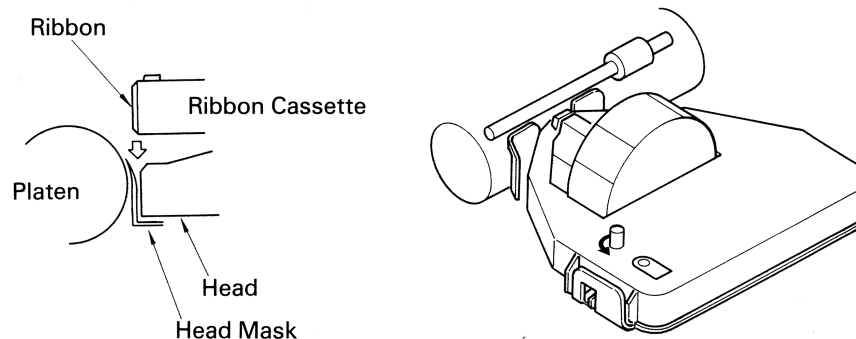

Figure 8. Installed Ribbon Cassette
7. Move the Carriage back and forth manually to check that the ribbon advances properly. If the ribbon has not been properly fitted between the Head Mask and Print Head, the Ribbon feed will not operate smoothly. (See Figure 8.)